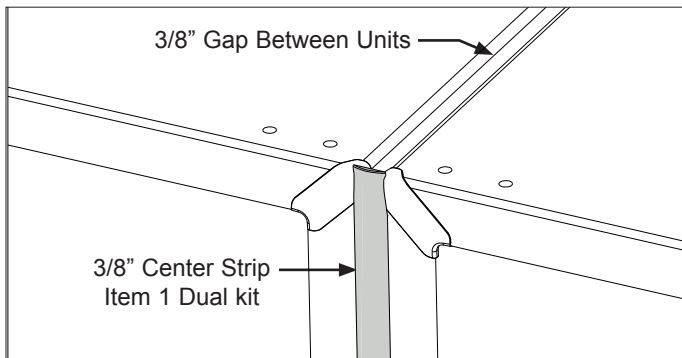

Figure 6
- b. Install center strip to insure the proper 3/8" gap is maintained between units. (See Figure 6).